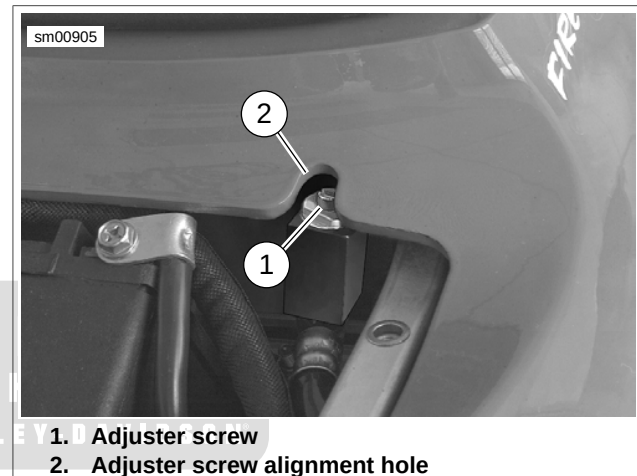

Figure 2-122. Adjuster Screw Alignment
- b. See Figure 2-122. Temporarily place upper body work onto tail section and adjust reservoir placement so the adjuster screw aligns with bodywork.